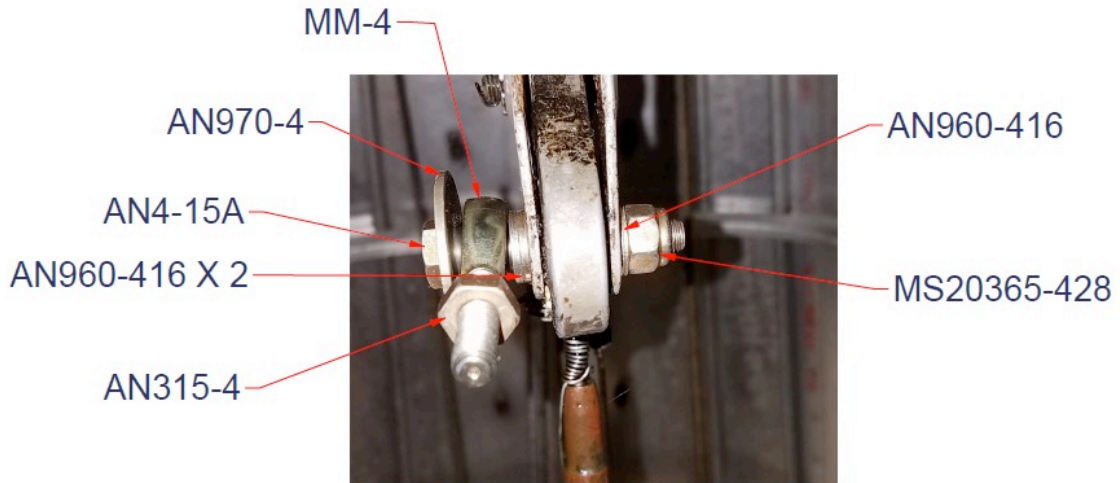

Figure 3-15
11. Remove the AN4 bolt securing the elevator push rod to the bottom of the elevator bellcrank and replace with hardware as shown in Figure 3-15.